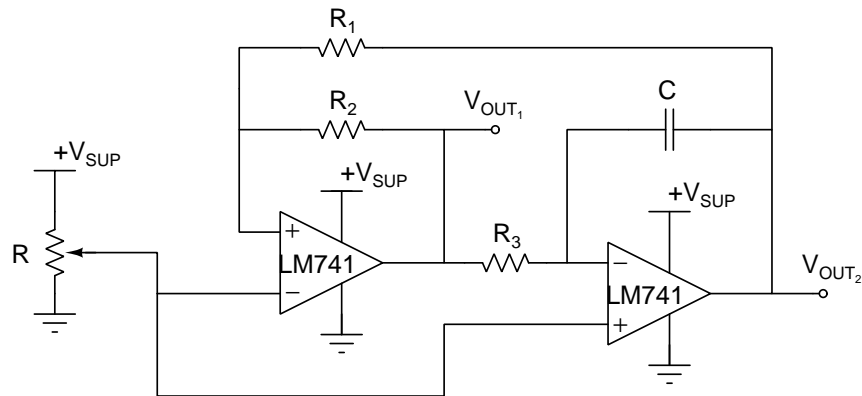

Figure 3: Oscillator circuit using a Schmitt trigger and an inverting integrator.
Two LM741 Operational Amplifiers (OpAmps) are used to produce an oscillator. A block diagram, showing the inputs and outputs, is shown in Figure 1. The input to the circuit is a DC voltage of  $+V_{SUP}$ . The output of the circuit consists of a  $\sim 10 V_{pp}$  square wave and a  $\sim 5 V_{pp}$  triangular wave. The oscillator is formed by connecting the output of a Schmitt trigger, shown in Figure 2, to the input of an inverting integrator (see Lab #4), and then connecting the output of the inverting integrator back to the input of the Schmitt trigger. The complete oscillator circuit is shown in Figure 3.
- Describe the function of the circuit shown in Figure 3. Assume the variable resistor is set to the mid-point resistance. Sketch the shape of the expected output signals  $V_{OUT1}$  and  $V_{OUT2}$  as a function of time.
- Perform a transient simulation of the circuit of Figure 3 using the Ideal OpAmp. What is the simulated value of the oscillation frequency? What is the duty cycle? A MATLAB® file for NGspice is available at [https://ece214.davidkotecki.com/docs/Matlab/ECE214\\_2022\\_Lab5\\_Osc.m](https://ece214.davidkotecki.com/docs/Matlab/ECE214_2022_Lab5_Osc.m).
- Perform a transient simulation of the circuit of Figure 3 using the LM741 OpAmp. Since the OpAmp is not ideal, the value of  $R_3$  you calculated may be off by as much as 20%. Adjust the value of  $R_3$  to produce an oscillation frequency of  $1 \pm 0.1$  kHz.